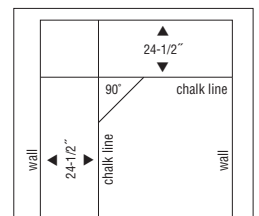

Figure 6
- If the room dimensions allow, in at least two places 18" (46 cm) from the corner, measure out and establish a chalk line parallel to, and 24-1/2" (62 cm) away from, the starting wall opposite the entrance doorway. The 1/2" (13 mm) is for expansion space (Figure 6).
- Snap a second chalk line 90° to the first chalk line, 24-1/2" (62 cm) away from the right angle wall (Figure 6). The 1/2" (13 mm) is for expansion space. Check accuracy with a builder's square.